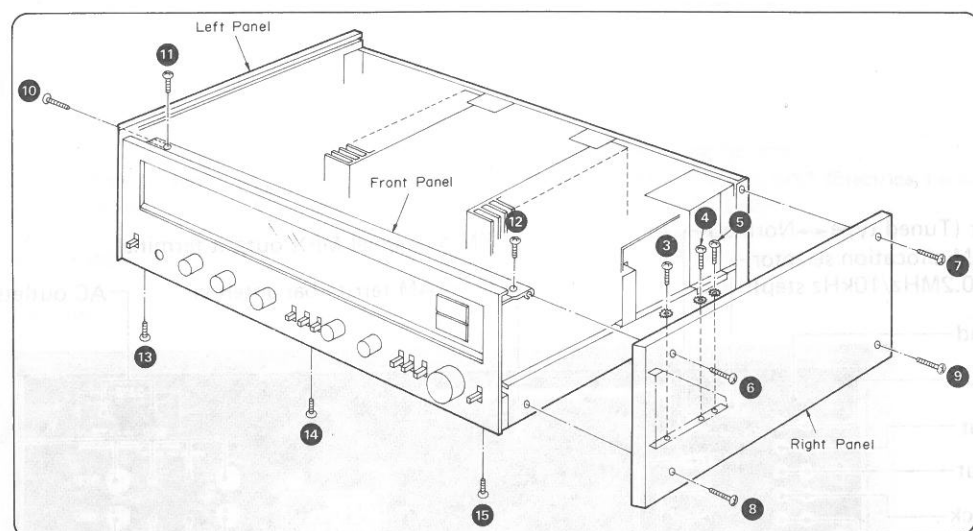

Fig. 2
3. Remove the 7 setscrews (Fig. 2 : ③ ~ ⑨) of the right panel to detach the panel from the chassis.
4. Remove the 1 setscrew (Fig. 2 : ⑩) of the left panel.
5. Remove the 5 setscrews (Fig. 2 : ⑪ ~ ⑮) of the front panel.